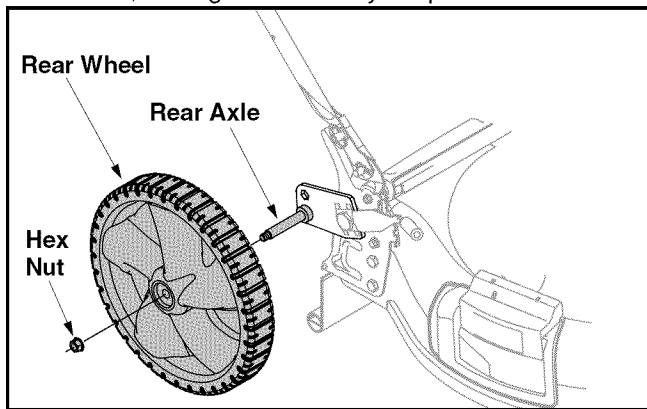

Figure 5
- Remove the hex flanged nut on the rear axle from each side and place the rear wheel on the axle. See Figure 5. Reinsert the flanged nut into the axle as shown, and tighten securely. Repeat on other side.